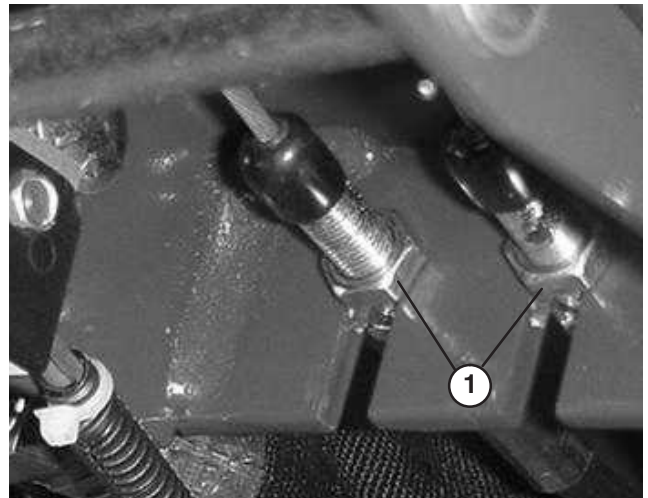

Figure 44
1. To reduce free travel of turn pedals—tighten the brakes—loosen front nut on threaded end of brake cable (Fig. 44). Then tighten rear nut to move cable backward until turn pedals have 1/2 to 1 in. (13 to 25 mm) of free travel. Tighten front nut after brakes are adjusted correctly.